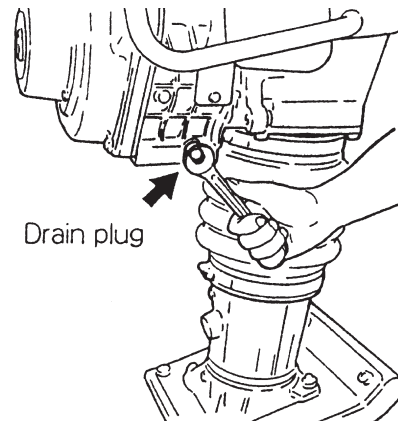

Figure 10. Replacement of Lubricant
1. While the engine is still warm, remove the drain plug. For quick discharging, it is advisable to take off the oil gauge. Replace drain plug and refill engine crankcase. See Figure 10.